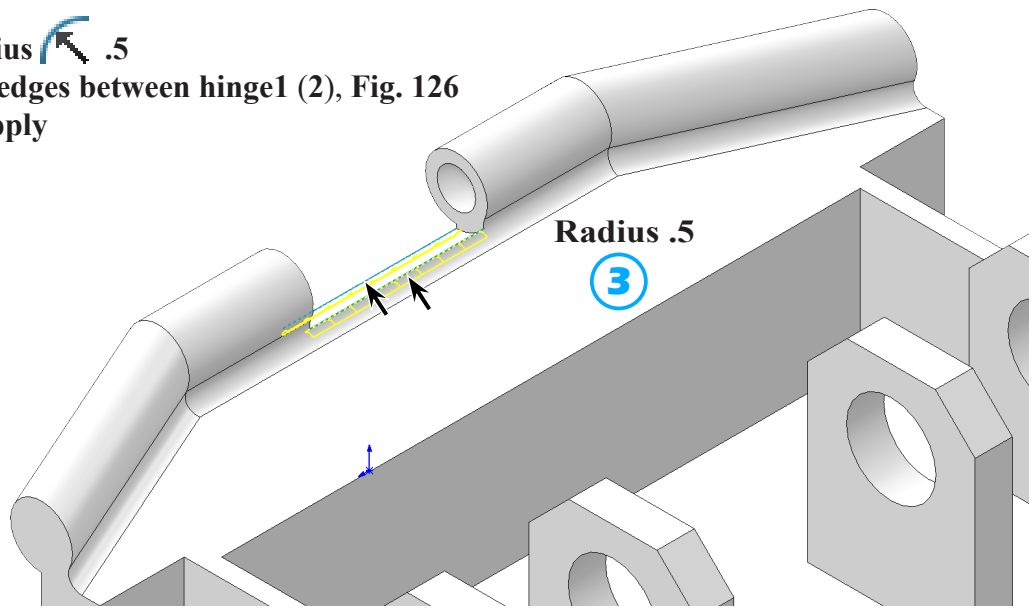

Fig. 126
③ Radius .5
click edges between hinge1 (2), Fig. 126